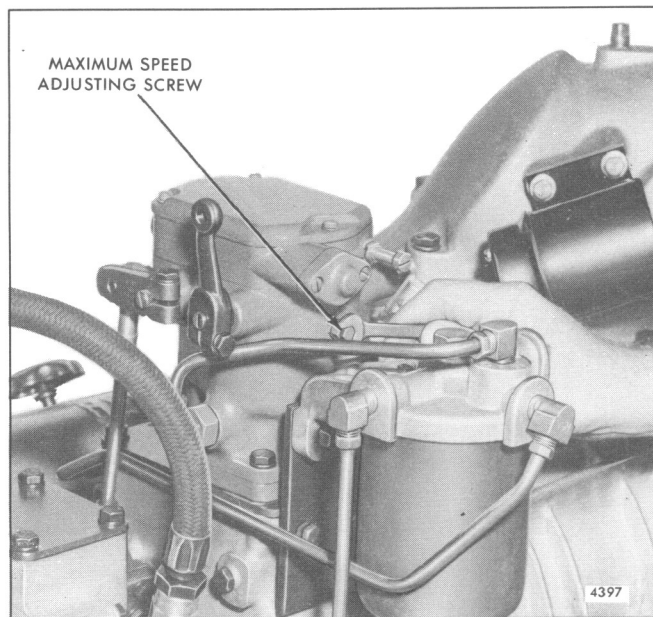

Fig. 11 – Adjusting Maximum No-Load Engine Speed
2. Turn the maximum speed adjusting screw (Fig. 11) in until the screw contacts the throttle linkage internally, limiting the maximum speed of the engine at 8% above the rated full load speed.